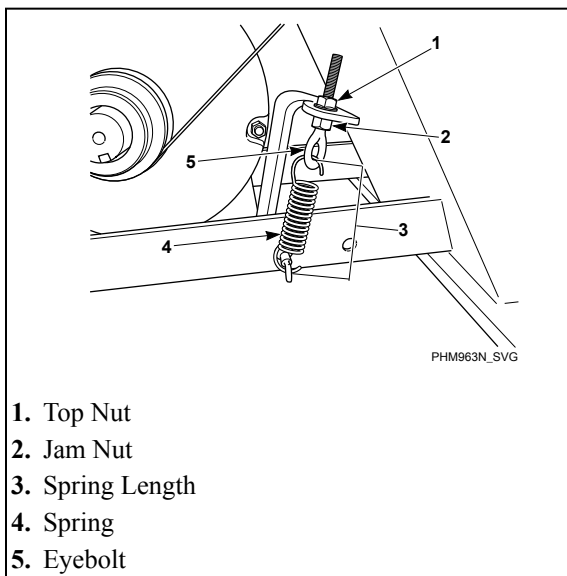

Figure 61
- **Frequency Gauge.** Tighten eyebolt top nut until the correct frequency (refer to *Table 48*) is obtained mid-span. Torque jam nut to spring bracket to 20.6 ± 2 ft.-lbs. Refer to *Figure 61*.
- **Tension Gauge.** Tighten eyebolt top nut until the proper belt gauge (refer to *Table 48*) is obtained mid-span. Torque jam nut to spring bracket to 20.6 ± 2 ft.-lbs. Refer to *Figure 61*.
- **Spring Length.** Tighten eyebolt top nut until the spring measures the correct distance between the hooks. Refer to *Table 47*. Torque jam nut to spring bracket to 20.6 ± 2 ft.-lbs. Refer to *Figure 61*.
- **Maintain Tension During Belt Removal.** If proper tension is achieved, tape the jam nut in place and loosen eyebolt top nut to release the belt. Replace belt and retighten eyebolt top nut back to jam nut position. Refer to *Figure 61*.